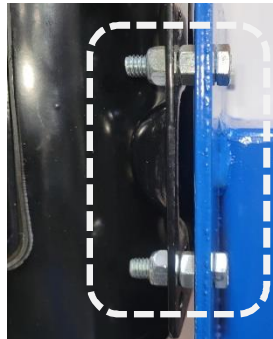

Fig. 5
- 5) Carefully remove 115V Power Unit from cardboard box to mount to the anchored Stand. Use **5/16"-18 x 1-1/4" hex bolts, hex nuts, and lock nuts** to mount power unit to stand's mount plate. **Fig 5.**